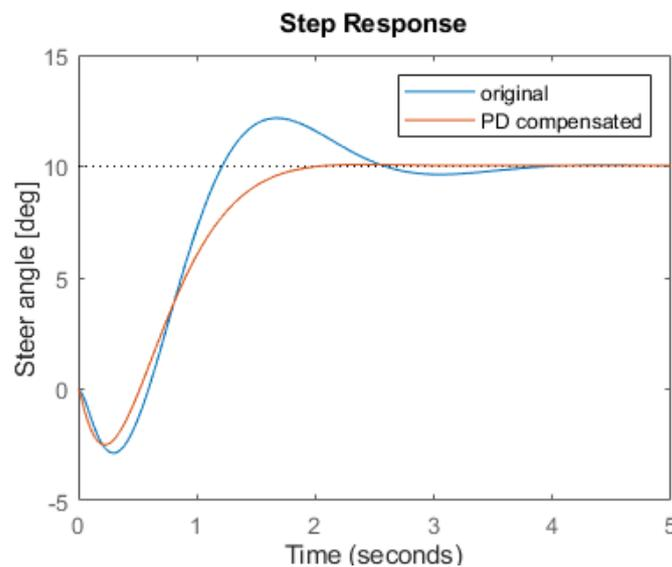

Figure Q3
Figure Q3 shows a step response of the motorcycle, which has transfer function $G(s)$, under unity negative feedback, and when using the PD controller $C(s)$ designed by the engineer.
- e) Hence, or otherwise, explain the differences and similarities of the step responses in Figure Q3 with reference to the resulting poles and zeros of the closed-loop system. [3 marks]